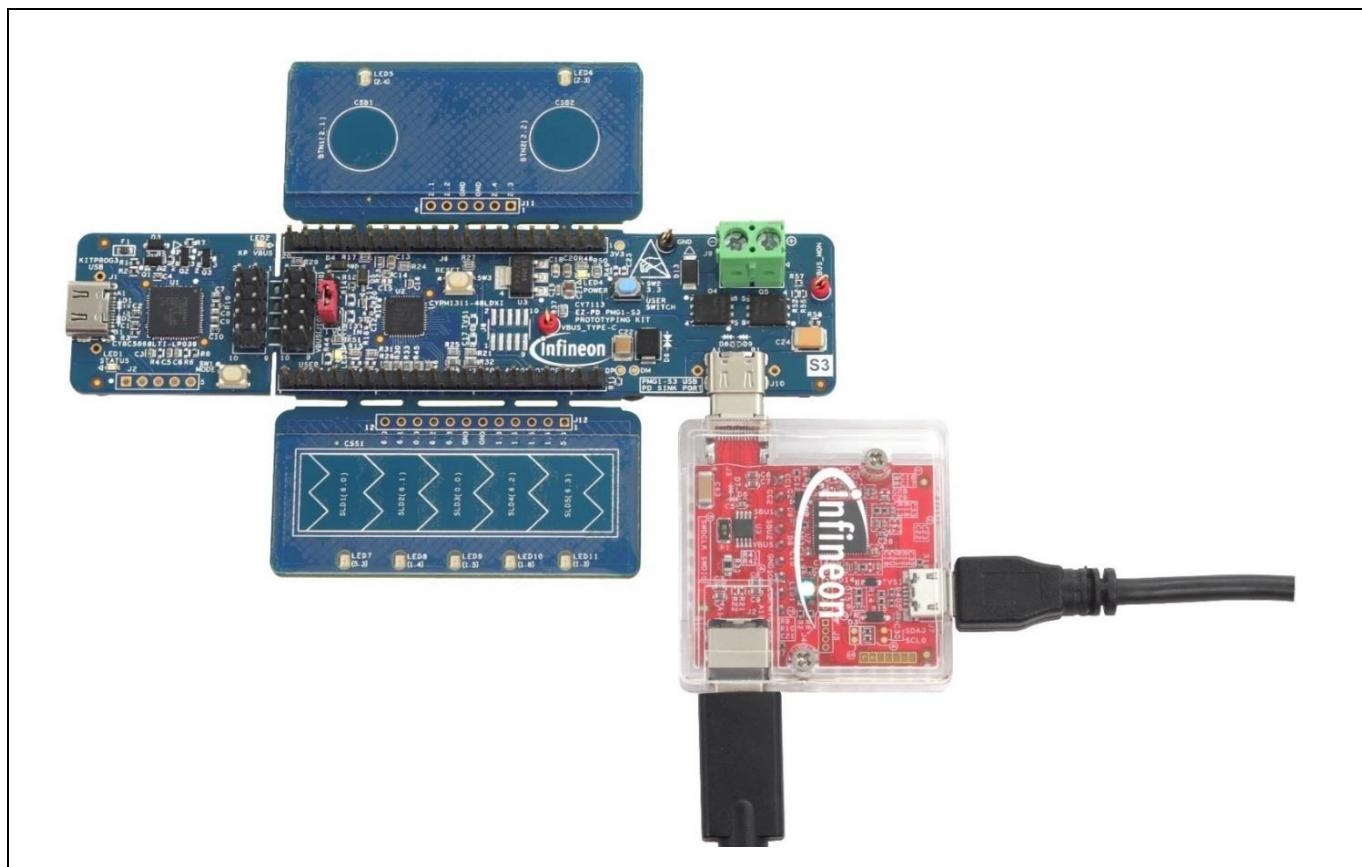

Figure 13 Complete setup of CY4500-EPR EZ-PD™ Protocol Analyzer
7. Connect a USB Type-C power adapter (not provided with the analyzer) to the USB Type-C receptacle (Connector J2) of the CY4500-EPR EZ-PD™ Protocol Analyzer board. Verify that the setup looks similar to the image shown in Figure 13. The USB Type-C power adapter mentioned here is just an example. Any USB Type-C device can be used in its place.
12. If the hardware shown in Figure 13 is not stable or gets disconnected at any point, the status bar at the bottom of the utility window shows the message **EZ-PD™ Analyzer is disconnected**.